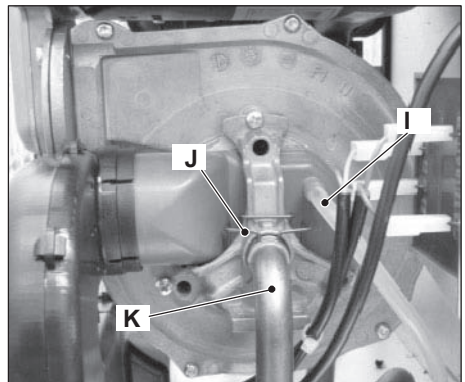

Fig. 9.6
- Disconnect the rubber pipe I (Fig. 9.6).
- Remove the fixing fork J and remove the gas pipe K (Fig. 9.6).